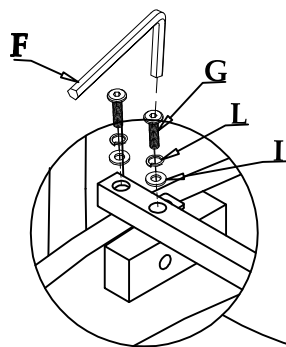
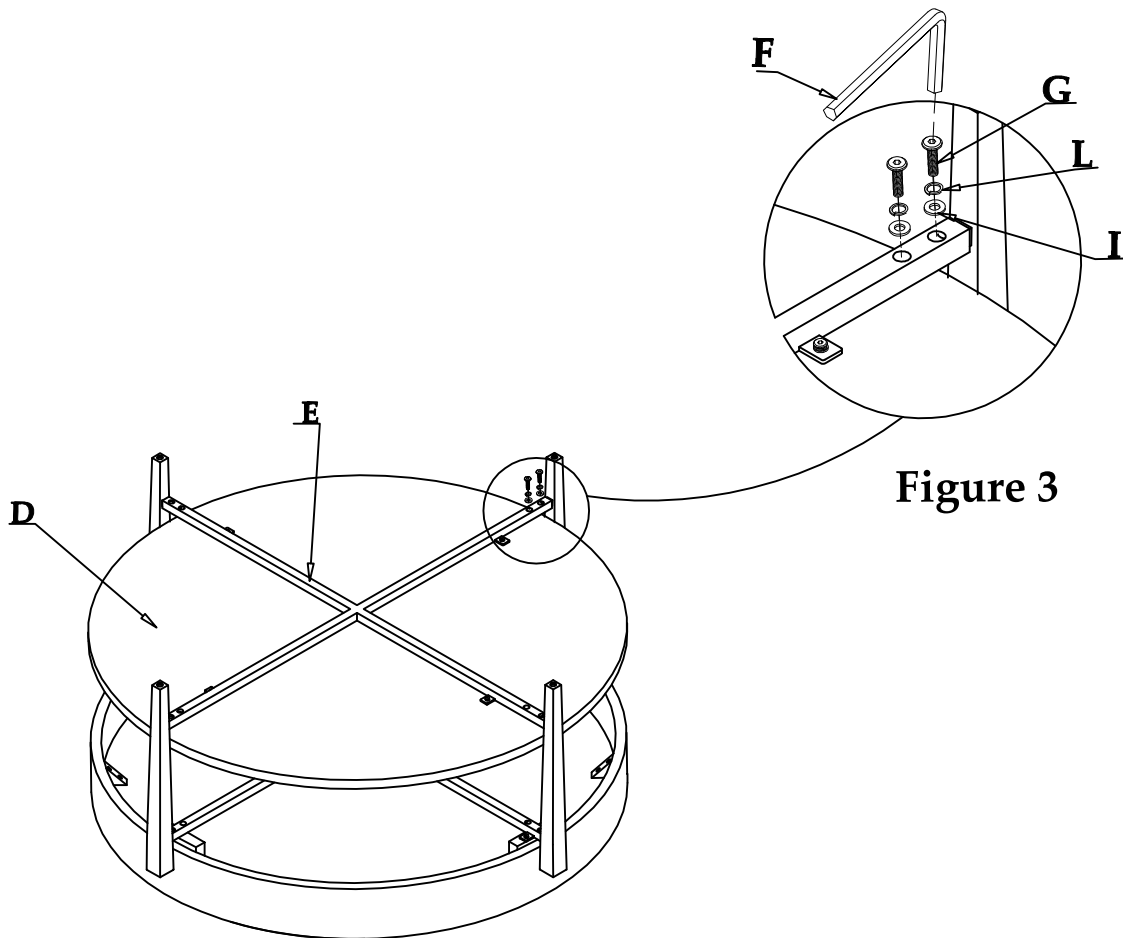

Figure 2
Figure 3
Do not fully tighten until : Figure 3.
Step 3: Top table(A) into the notches of the Legs (C) and Using Allen Key (F) the Allen Head Bolts (G) Spring Washer (L) and Flat Washer(I) Figure 2. Do not fully tighten until : Figure 3.
Step 4 : Bottom metal frame (E) into the notches of the Legs (C) and Using Allen Key (F) the Allen Head Bolts (G) Spring Washer (L) and Flat Washer(I) Figure 3 .
Step 5: Adjust parts fit if necessary, pulling all parts snug together and tighten all Bolts using the Allen Wrenches (F).